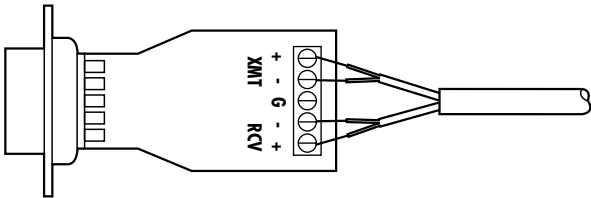

Figure 4-5. Wires connected to the terminal block.
7. When you finish connecting the wires to the terminal block, the assembly should resemble Figure 4-5.